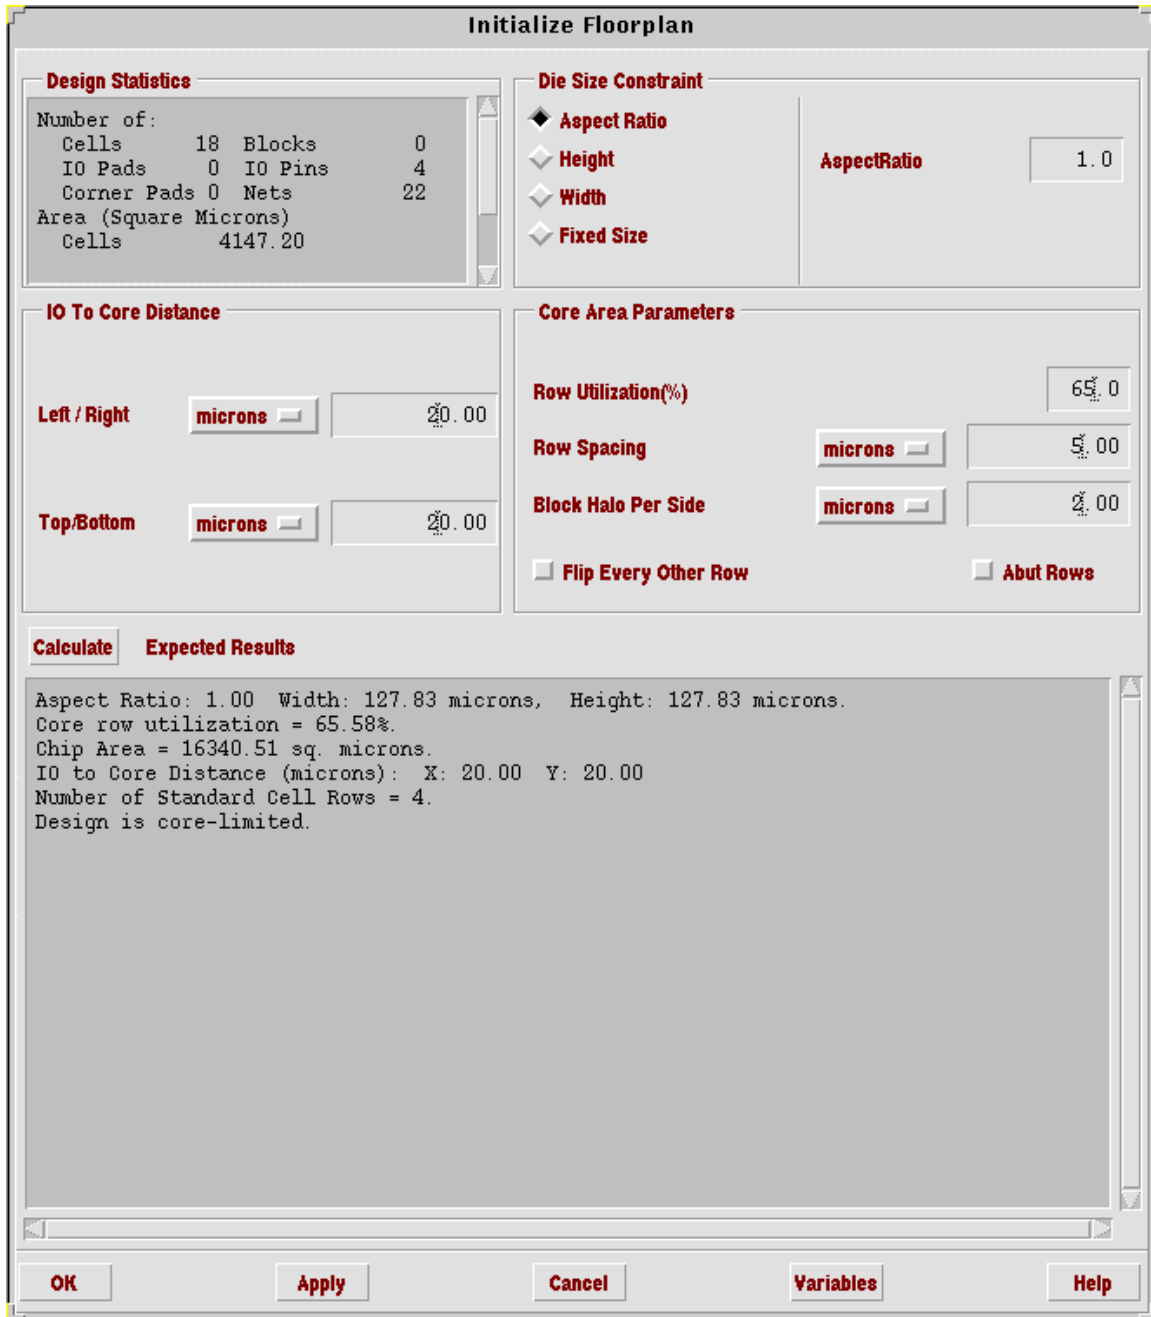

Fig 8: Final Floorplan
- i. After the **Row Utilization** is reduced and the floorplan is recalculated the initialize floorplan window appears as shown in Fig 8.
- j. In Fig 8 click **OK** to finalize the floorplan.